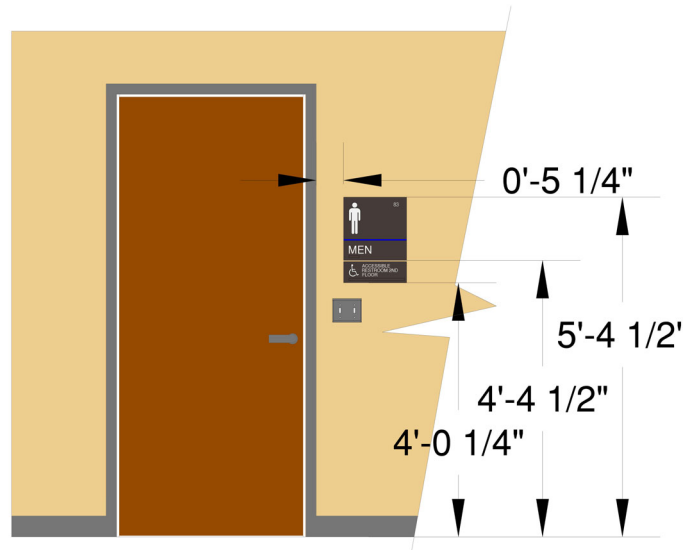

Figure 31.8
- 31.7. Non-accessible restroom sign installation shall comply with figure 31.8.